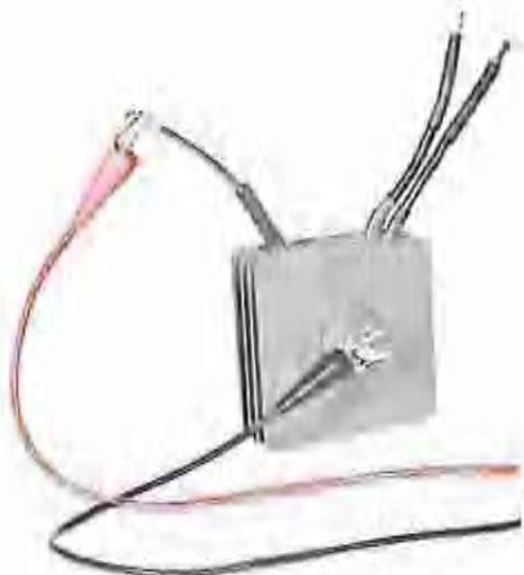

Figure 28
3. **Connect small red test lead to positive lead on rectifiers.** Figure 28.
4. Connect small black test lead to ground stud or lead on rectifier. Figure 28.